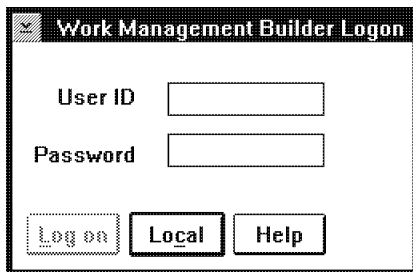

Figure 13. Work Management Builder Logon Window
2. Double-click on the Work Management Builder icon. You see the About window, which provides information about Work Management Builder. To continue with Work Management Builder, click on the **OK** push button or press Enter. The About window closes. If you have not logged on to Workfolder Application Facility, a message reminds you that you must log on at least once. Click on the **OK** push button or press Enter. You see the Work Management Builder Logon window shown in Figure 13 on page 23.
1. Type your Workfolder Application Facility user ID in the **User ID** entry field in the Work Management Builder Logon window, shown in Figure 13.
If you are in local mode, you can establish a connection to Workfolder Application Facility from the Work Management Builder window by selecting **Log on** from the **Services** pull-down. You see the Work Management Builder Logon window shown in Figure 13.
To use Work Management Builder in local mode, click on the **Local** push button in the Work Management Builder Logon window shown in Figure 13 on page 23. You do not need to type a user ID or password. If you click on the **Local** push button, Work Management Builder retrieves data locally. You must log on to Workfolder Application Facility at least once before you work in local mode.